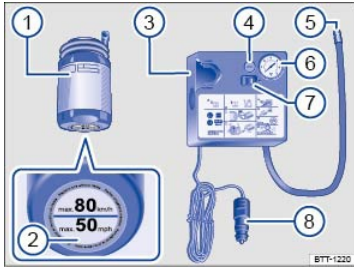

Fig. 230 Basic diagram: Contents of the tire mobility set.
The tire mobility set may be stored in one of several places in the luggage compartment (for example, in the side storage compartment or under the floor covering). contains the following ⇒ Fig. 230:
- Vigorously shake the tire inflation cylinder ⇒ Fig. 230① a few times back and forth.
- Tightly screw the inflation hose on the air compressor ⇒ Fig. 230⑤ to the valve on the top of the sealant cylinder.
- Tightly screw the filling hose from the tire inflation cylinder ⇒ Fig. 230① to the tire valve.
- Hold the cylinder with the bottom pointing up and insert the top of the cylinder into the notch in the air compressor ⇒ Fig. 230③.
- Insert the 12 Volt plug ⇒ Fig. 230⑧ into one of the vehicle's 12 Volt sockets ⇒ Power outlets.
- Switch the air compressor on using the ON/OFF switch ⇒ Fig. 230⑦.
Connect the inflation hose ⇒ Fig. 230⑤ from the air compressor to the tire valve and read the tire pressure on the tire pressure gauge ⑥.